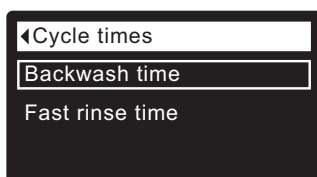

FIG. 67
5. Press the SELECT (O) button to display the Cycle times menu (See Figure 67).
9. Press the SELECT (O) button. The display will go back to the Cycle times menu (Figure 67).